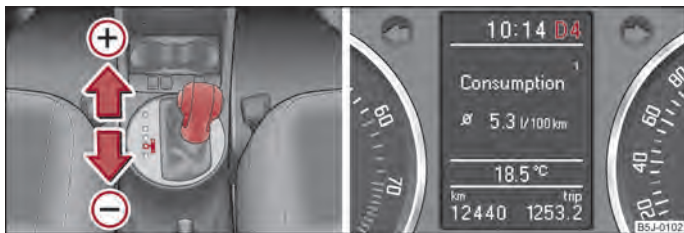

Fig. 89 Selector lever: manual shifting/large information display: Manual shifting of gears
The selector lever position you have engaged is indicated in the information display of the instrument cluster together with the engaged gear → fig. 89 on the right.
- One-touch forward of the selector lever (in the Tiptronic position) ⇒ fig. 89 ⊕.